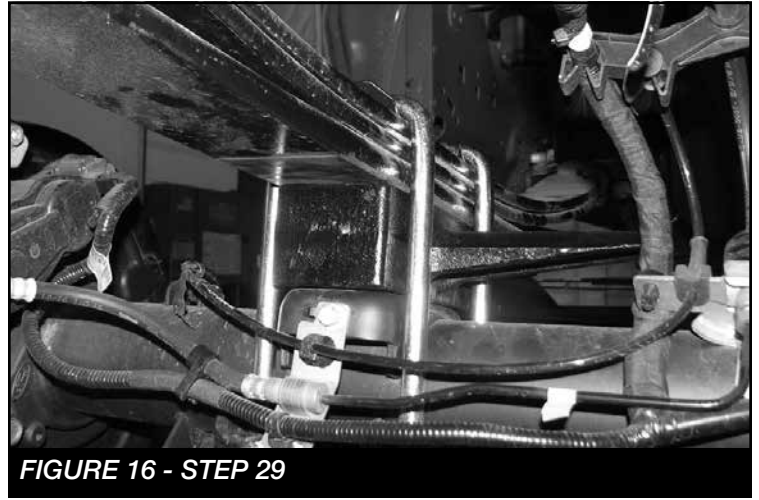

FIGURE 16 - STEP 29
29. Locate and install the rear lift blocks FTBK22. The extended bump stop perch will be facing inboard of the truck. Using the provided u-bolts, nuts and washers, align the axle, lift blocks, and springs and torque u-bolts to 184 ft-lbs. **SEE FIGURE 16**